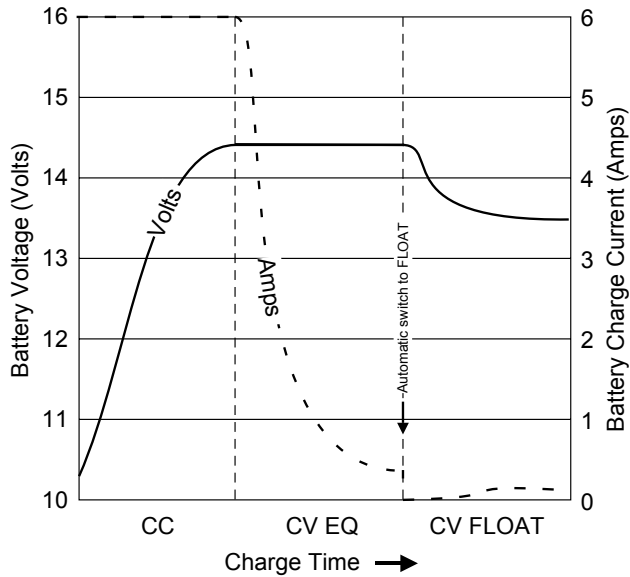
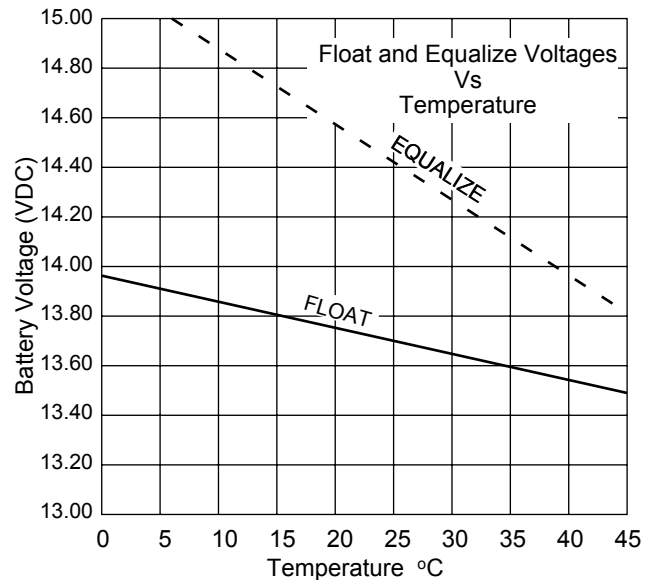

Figure 1. PS-16A-1 Charge Controller Stages.
Figure 2. PS-16A-1 Equalize and Float mode temperature dependent voltages.
Notes: 1. Float charge down to minimum, Equalize requires 16 VDC or greater. 2. Dissipation limited at high input voltage and current. 3. Dissipation, SOA and MOV limited. 4. Adjust per Figure 2 for ambient temperatures other than +25 °C. 5. See Figure 1 for nominal Float and Equalize voltage temperature coefficient. 6. Equivalent to 100 W SSB continuous transmission. Burst Digital modes similarly supported. 7. Approximate - many factors, e.g. temperature, charge level, battery age and condition effect actual run time. 8. For 80% discharge at +25 °C and discharge current equal to or greater than 20 AH rate. 9. Approximate due to many factors effecting actual performance. d_r = discharge rate (AH), see http://www.bwcelectronics.com/projects/AP10A090.pdf
The PS-16A-1 design is commonly called a multistage charger. Figure 1 shows three primary stages of charge. The first stage of charge is “CC”, “Constant Current” and operates in both FLOAT and EQUALIZE modes. Some marketing literature refer to these as separate stages so they can claim a “four stage” charger, but in reality they are one in the same. When charged with a constant current the voltage is controlled by the battery’s state of charge. This current must be limited to less than the “initial current” specified by the manufacturer to prevent irreversible cell damage. Normally the “initial current” is specified as a fraction of the AH capacity of the battery and in this application is set to 6 ADC.
In the FLOAT mode the charge voltage is also temperature controlled and current limited to levels safe for continuous charging. This allows the battery to be maintained in a fully charged state either in a standby or operational application. Figure 2 shows the FLOAT and EQUALIZE charge voltages temperature dependence. This compensation allows the